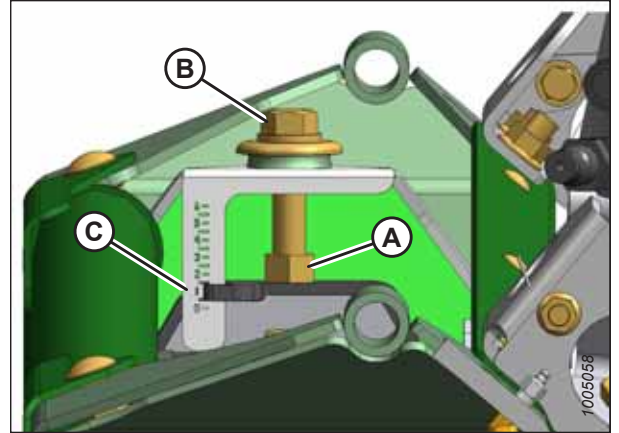

Figure 4.27: Roll Gap Gauge
Intermeshing steel rolls condition the crop by crimping and crushing the stem in several places, which causes the cut crop to dry faster. The degree to which the crop is conditioned as it passes through rolls (A) is determined by roll gap (B). The gap is factory-set to 20 mm (3/4 in.) or at the 1.5 line on the roll gap gauge, as shown in Figure 4.27, page 83. The gauge readings should be the same at both ends of the roll.